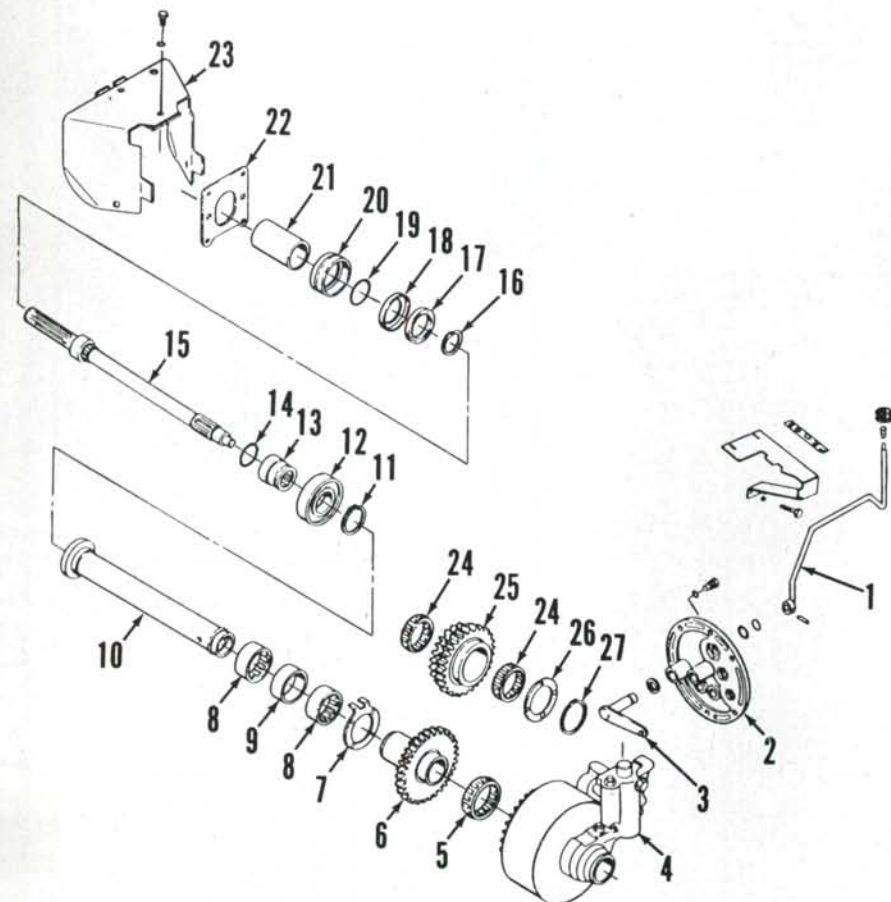

Fig. 247—Drawing of dual speed independent pto output shaft, reduction gears, clutch and associated parts used on some tractors.
**204. R&R AND OVERHAUL.** To remove pto output shaft (15—Fig. 247), oil seal (17) and rear bearing (12), first drain oil from differential housing. Remove pto shield (23) and cap (21). Remove snap ring (16), then withdraw output shaft from the housing. Unbolt
**205. REMOVE AND REINSTALL.** To remove dual speed pto reduction gears (25—Fig. 247) and pto driven gear (6), first drain oil from transmission housing. Remove hydraulic lift cover as outlined in paragraph 215. Split tractor between transmission housing and differential housing as outlined in